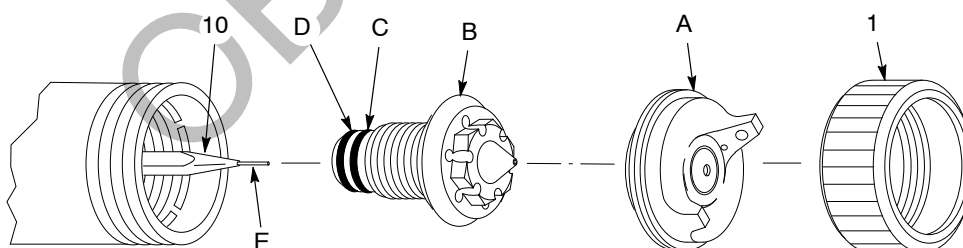

Figure 7-2 Air Cap and Fluid Tip Replacement
5. See Figure 7-2. Unscrew the retaining ring (1) and air cap (A) assembly from the extension then unscrew the air cap from the retaining ring.
6. Trigger the spray gun to retract the needle (10). Place the hex on the combination tool over the hex on the fluid tip (B) and unscrew it from the extension.
7. Make sure the O-ring (D) is installed in the groove in the fluid tip. Lubricate the O-ring with dielectric grease.
8. Make sure the conductive back-up ring (C) is installed on the fluid tip.